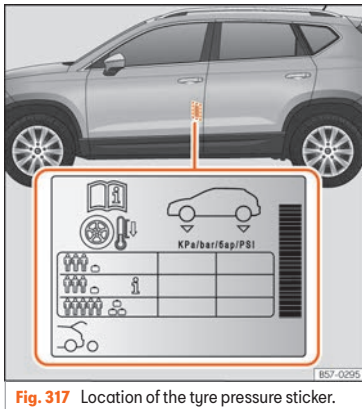

Fig. 317 Location of the tyre pressure sticker.
- Adjust tyre pressure to the load being carried by the vehicle » **Fig. 317**.
The tyre inflation pressures are listed on a sticker on the rear of the front left door frame » **Fig. 317**.
Depending on the vehicle, tyre pressure can be adjusted to medium load to improve driving comfort (tyre pressure **i**) » **Fig. 317**. When driving with comfort tyre pressure fuel consumption may increase slightly.
maximum value indicated on the sticker » **Fig. 317**.
In the case of a minimised temporary spare wheel (125/70 R18) inflate to a pressure of 4.2 bar as indicated on the tyre pressure label » **Fig. 317**.
- The driver is responsible for ensuring that all of the vehicle tyres are correctly inflated to the right pressure. The recommended tyre pressure is indicated on the label »» Fig. 317.
- When the tyres are cold, tyre pressure should be that indicated on the label »» Fig. 317.